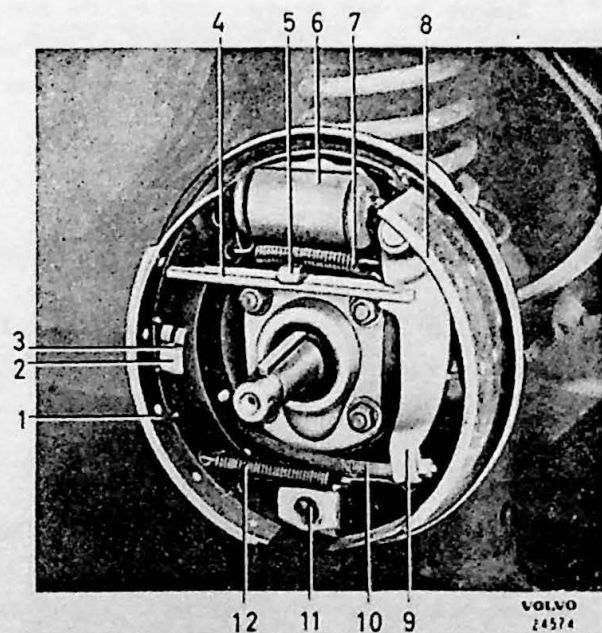

Fig. 7-18. Rear wheel brake unit
2. Rivet on the ready-made original linings. The front lining is placed towards the lower end of the shoe and the rear lining towards the upper end, see Fig. 7-18.
3. Place the handbrake link into position ensuring that it is turned correctly. Hook on the lower return spring and fit the front brake shoe with guide pin and locking clip. Hook on the upper return spring with brake spring pliers. Remove SVO 4074. Fit the spring clip (5 Fig. 7-18).